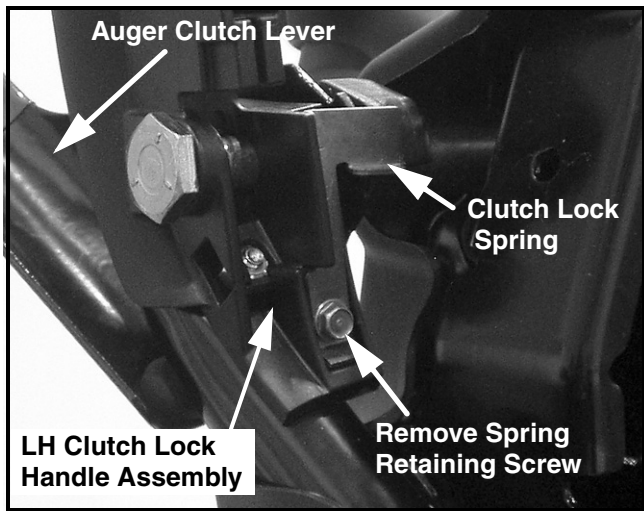

FIGURE 5
12. Using a 1/4" socket and ratchet or nut driver, remove the screw retaining the clutch lock spring to the LH clutch lock handle assembly. Discard the spring only. See Figure 5.